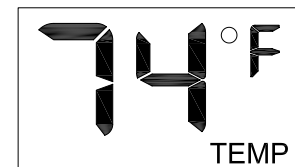

Fig. 33
During this time the LCD screen will show ON (Fig. 33).
- If the pilot flame is incorrect, as shown in Fig. 33, turn heater off (see "To Turn Off Gas to Appliance," page 23). See Troubleshooting, page 30 - 32.